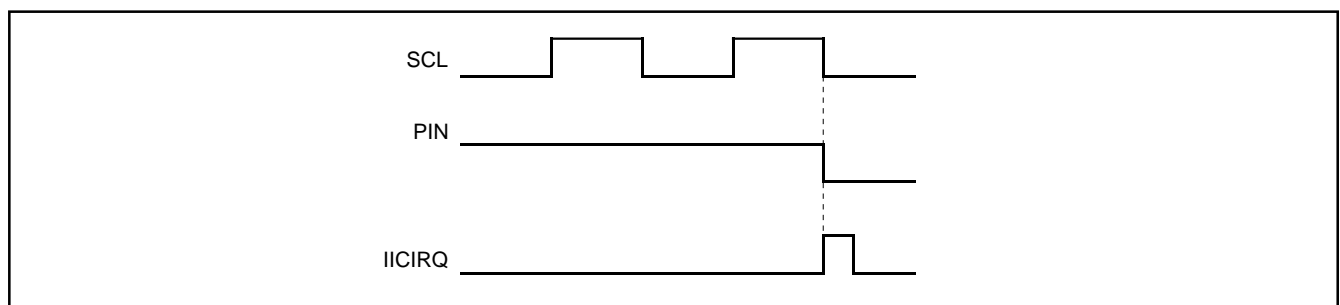

Fig. 8.6.8 Interrupt Request Signal Generation Timing
(5) Bit 4: I²C-BUS interface interrupt request bit (PIN)
This bit generates an interrupt request signal. Each time 1-byte data is transmitted, the state of the PIN bit changes from "1" to "0." At the same time, an interrupt request signal is sent to the CPU. The PIN bit is set to "0" in synchronization with a falling edge of the last clock (including the ACK clock) of an internal clock and an interrupt request signal occurs in synchronization with a falling edge of the PIN bit. When detecting the STOP condition in slave, the multi-master I²C-BUS interface interrupt request bit (IR) is set to "0" (interrupt request) regardless of falling of PIN bit. When the PIN bit is "0," the SCL is kept in the "0" state and clock generation is disabled. Figure 8.6.8 shows an interrupt request signal generating timing chart.